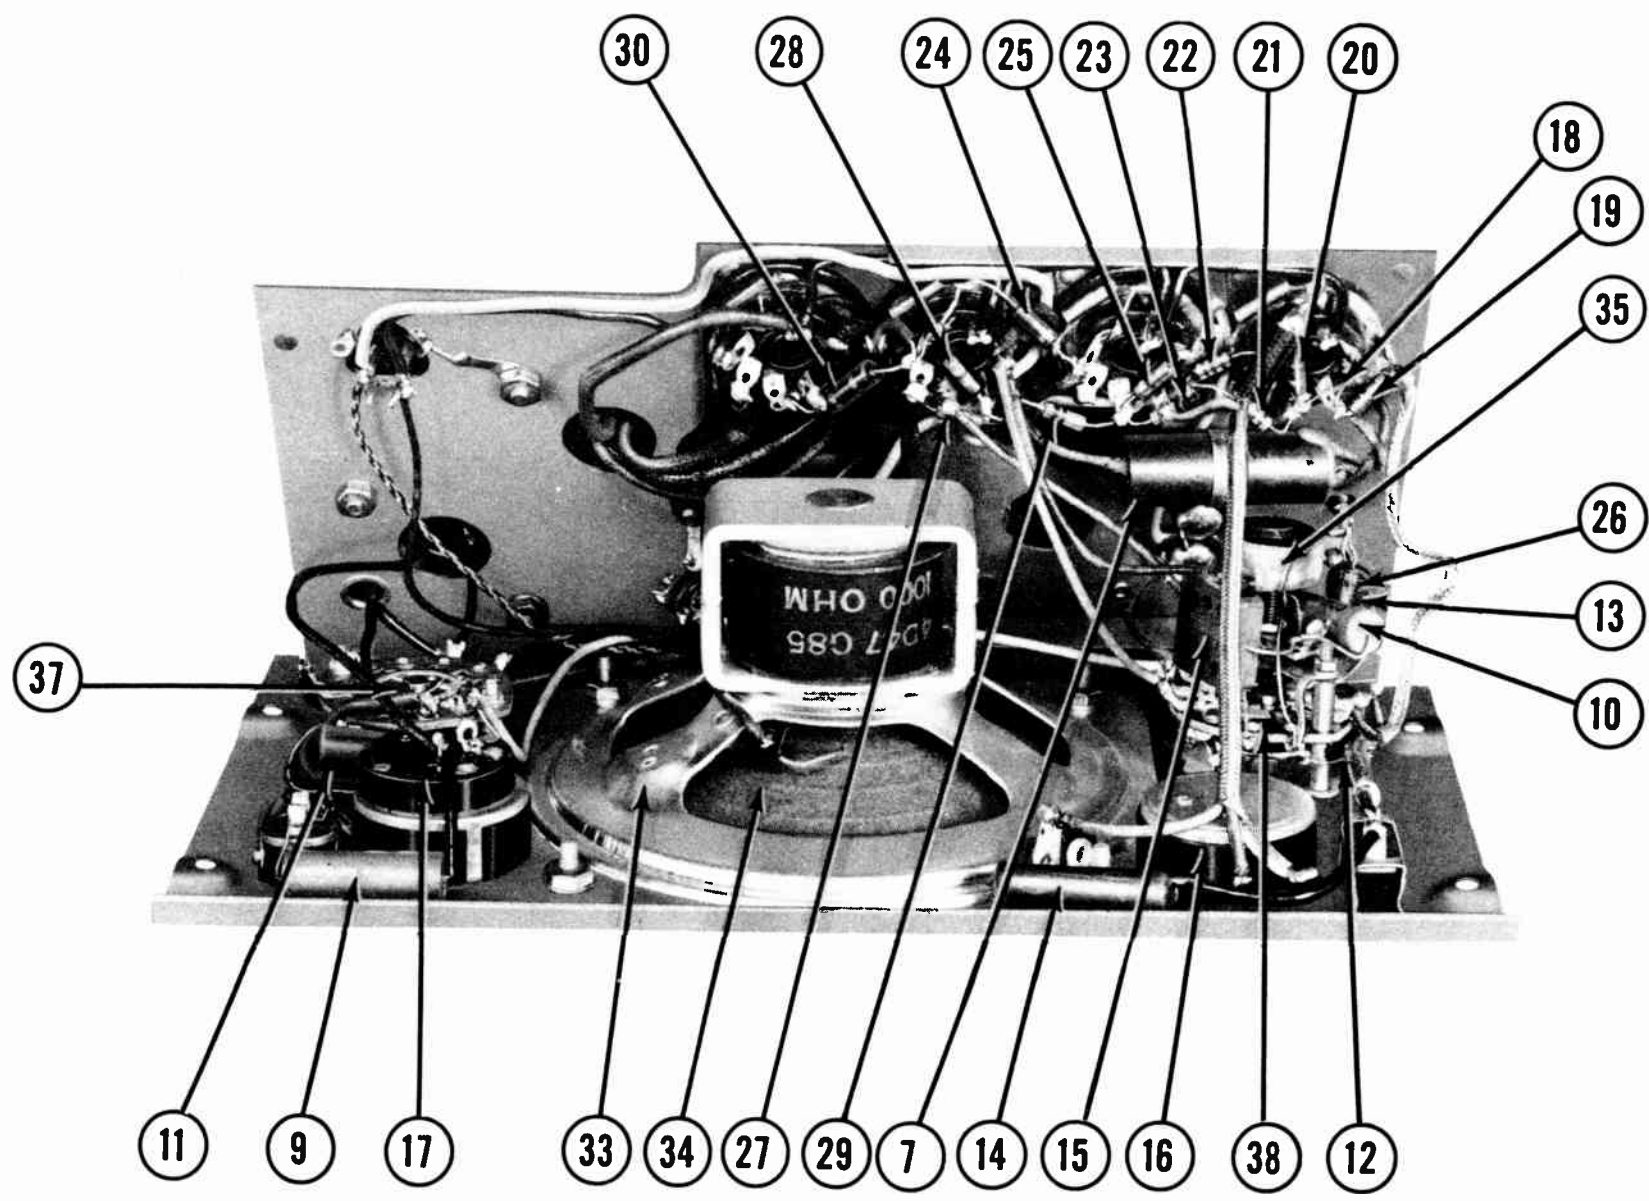

Fig. 27 — AMPLIFIER CHASSIS (BOTTOM VIEW)
Check oscillator coil (Illustration 35, Fig. 27) for grounded primary. If defective, replace coil assembly.
of the recording head is not grounded. Check the oscillator coil (35) (Fig. 27) for open connections. Check condensers C-4 and C-7 for opens or shorts.